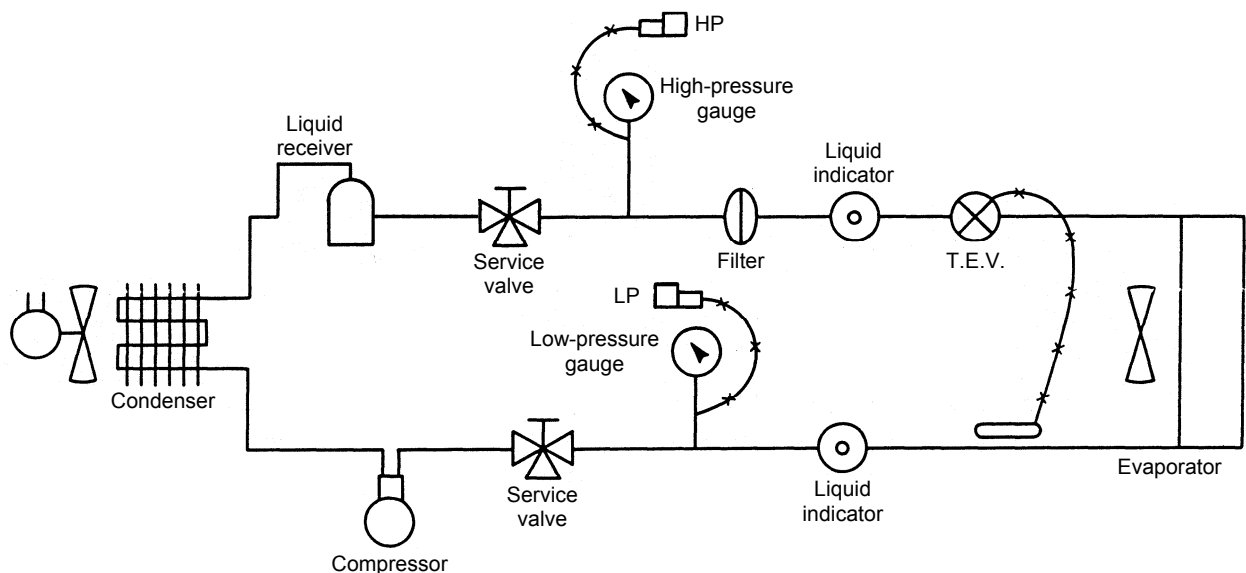

Figure 2-12. Refrigeration system with a dual (high/low) pressure controller.
1. Refer to the refrigeration circuit of the previous exercise and modify it so that a pressure controller can be added. Use the schematic of Figure 2-12.